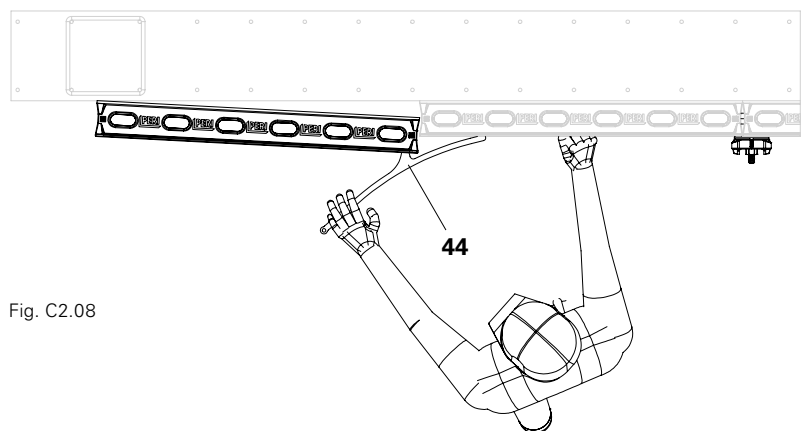

Fig. C2.08
- Use the DUO stripping lever (44) during the striking process, see section A4 Additional accessories, under DUO stripping lever. (Fig. C2.08)